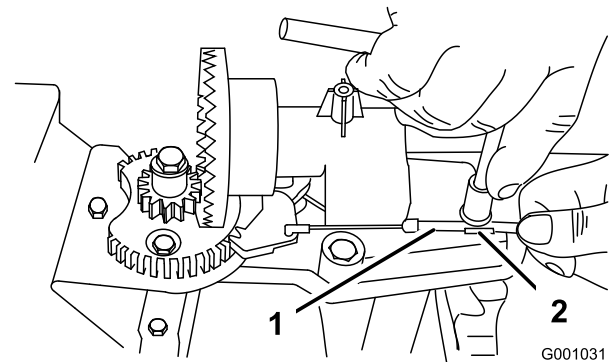
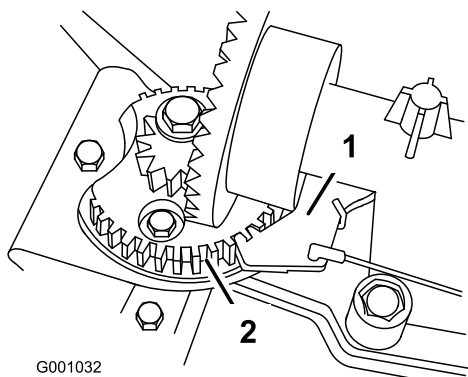

Figure 50
Figure 51
2. Loosen the bolt on the cable clamp (Figure 50).
3. Grasp the cable conduit and move it toward the front of the machine until the discharge chute latch fully engages the gear teeth (Figure 50 and Figure 51).
Note: The latch is spring loaded and will naturally move into the teeth of the gear (Figure 51).